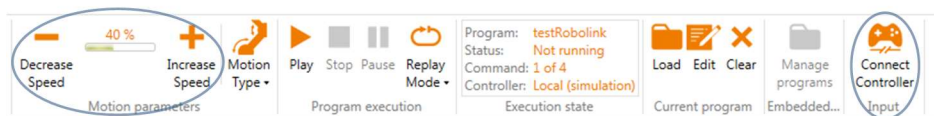

Figure 7.5: Control icons for moving the Robot (marked in blue).
1. **Software buttons** allow to select "Motion Type", which include three modes and in each case the movement speed can be changed between 0 and 100% (Figure 7.5):